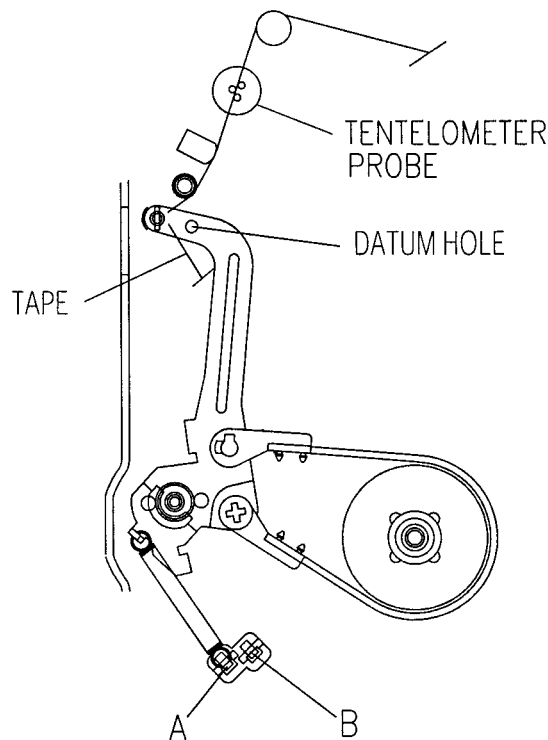

Fig.4-6 BACK TENSION MEASUREMENT
4.2. BACK TENSION MEASUREMENT (See Fig.4-6~4-7)
- Bring the TENTELOMETER into contact with the TAPE (Fig.4-6) and measure the BACK TENSION. The measuring result should be between 25 and 33 grams.